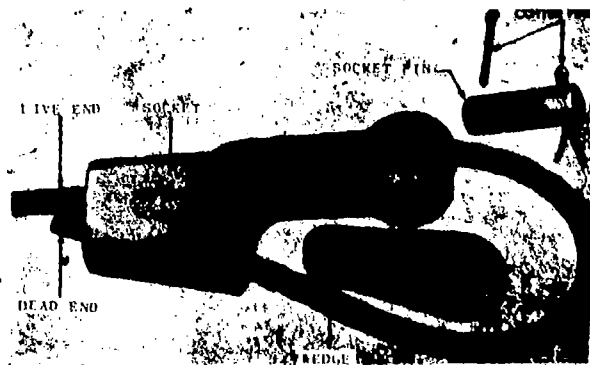
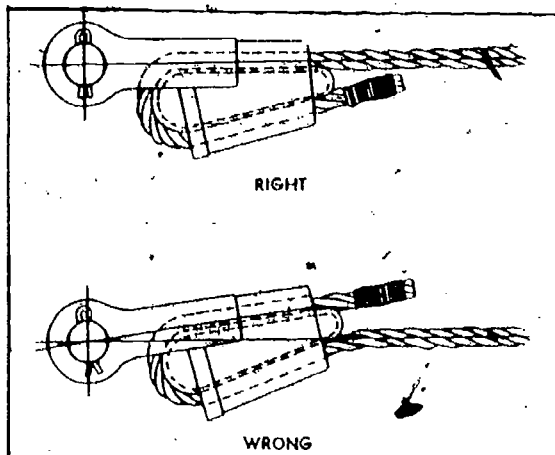

Fig 7-12. Wedge cable socket.
Fig 7-13. Wedge socket and fitting.
a. Wedge sockets. There are many different types of attachments which can be fitted to the end of a wire rope to provide a means for connecting the end to a pad eye. The one most frequently used to dead end wire rope on earthmoving equipment is the wedge socket (fig 7-12). To install a wedge socket, remove the pin and knock out the wedge. Pass the rope up through the socket and lead enough of it back through the socket to allow 2 inches of the dead end to extend below the socket. Next, replace the wedge and pull the live end of the rope to force the wedge into the socket. Take a strain on the live end to securely seat the wedge. Make sure that the socket is installed on the equipment so that the live end of the wire rope will form a nearly direct line to the clevis pin (fig 7-13). To remove the rope, simply drive the wedge from the socket.